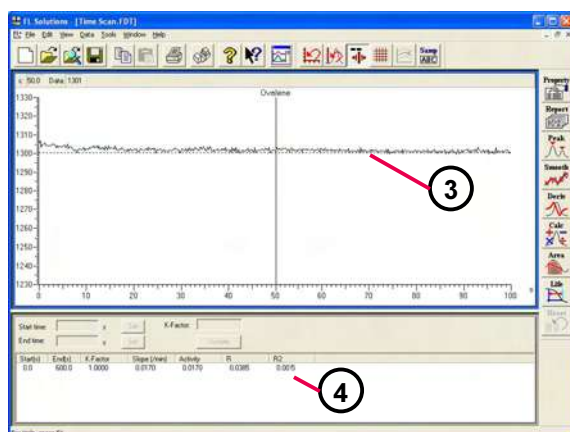

Fig. 1-36 Time Scan (kinetics result table)
- A spectrum alone can be displayed or both spectrum (③) and kinetics result table (④) can be displayed as shown in Fig. 1-36.